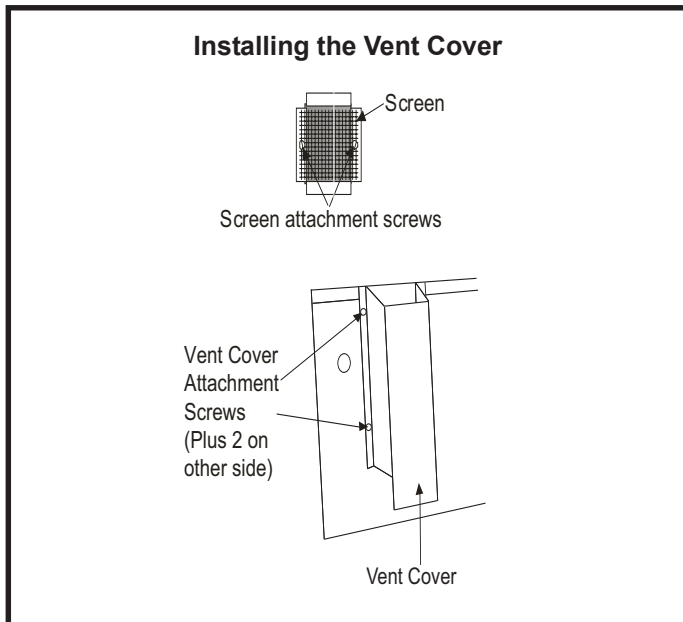

Figure 2
2. Remove the two screws that will be used to attach the screen to the unit (see Figure 2).